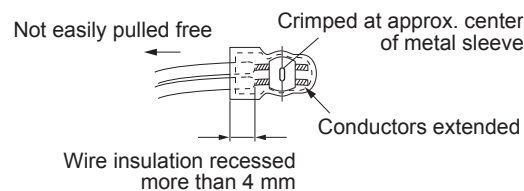

Fig. 1-1-7
- e) Check the four points noted in Fig. 1-1-7.